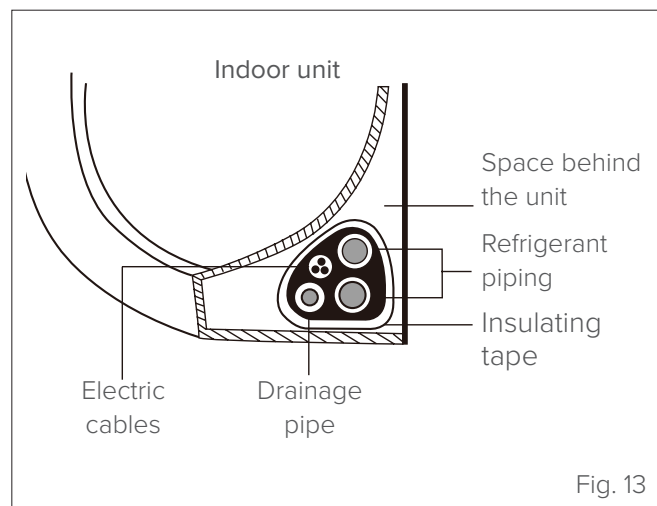

Fig. 13
- 1 Assemble the drainage pipe, refrigerant pipes and cables as indicated in "Fig. 13".
- 3 Using insulating tape, wrap the electrical cables, refrigerant pipes and drainage pipe together. Check that all components are joined together as indicated in "Fig. 13"